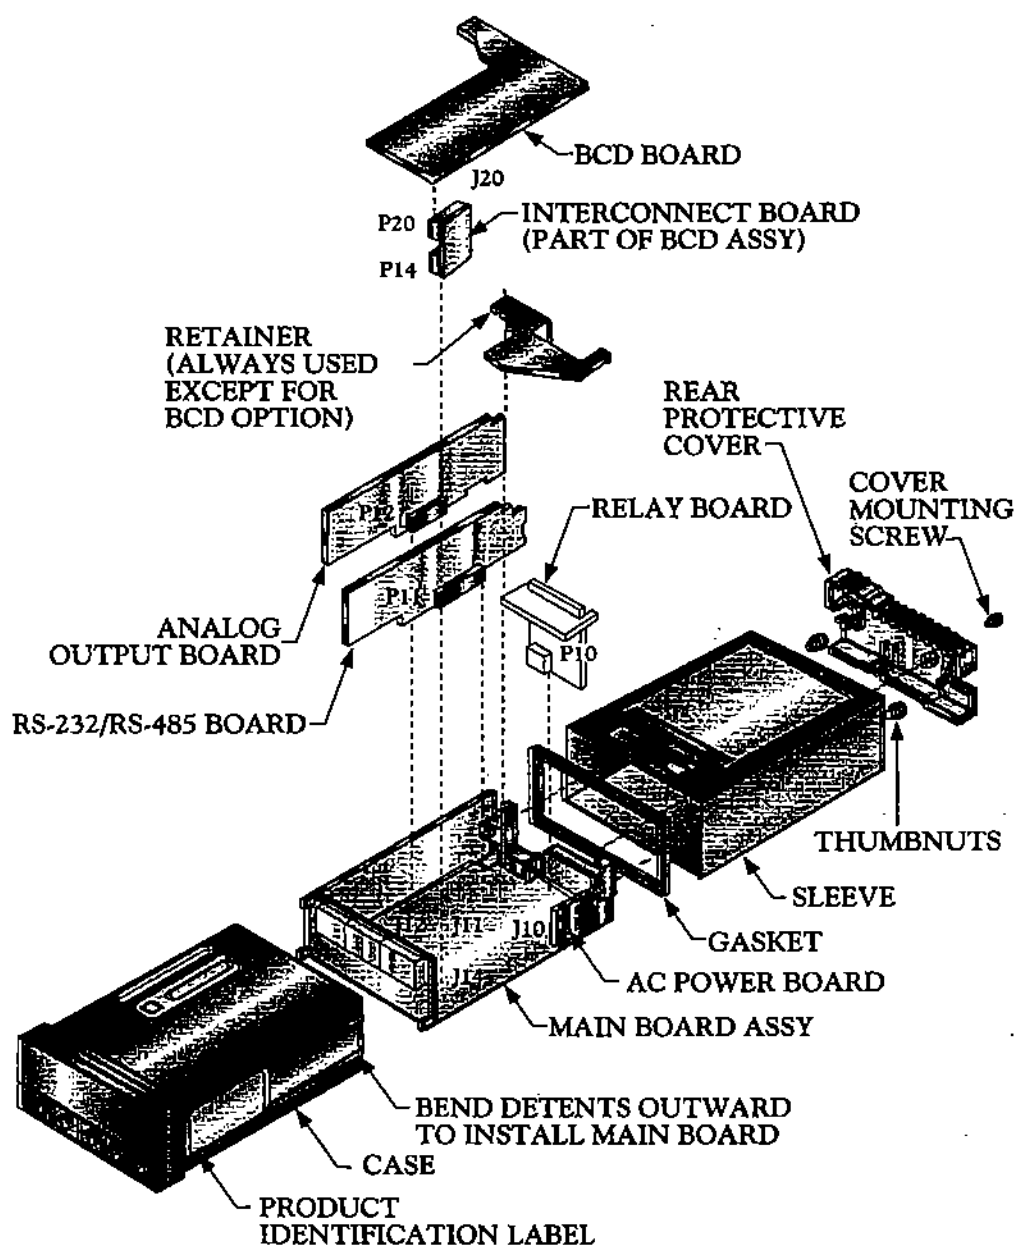

Figure 5-4. Optional Printed Circuit Board Locations
7. Bend the side panel detents on the case (shown in Figure 5-4) outward to release the boards. Pull the board assembly out of the case by the mounting screw stem.
2. Using Figure 5-4 as a reference, insert option board(s) into the corresponding slot(s) on the main board. Each circuit board is keyed to fit in its own position.